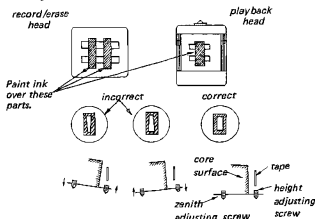

Fig. 3-24. Head zenith and height adjustment
3. Paint the head core with black ink as shown in Fig. 3-24.
- After the ink dried, run the tape in the FWD direction for 20 to 30 seconds. Watch the ink on the core fading away. When the same wide amount of the faded away part cannot be obtained at every point, turn the zenith and height adjusting screws in the direction shown by the arrows. See Fig. 3-24. Repeat this step several times until the satisfied result is obtained. After the adjustment clean the core with a soft cloth dampened with denatured alcohol.
- Paint the record/erase head cores with ink as shown in Fig. 3-24.
- After the ink dried, run the tape in the FWD direction for 20 to 30 seconds. Watch the ink on the core fading away. When the ink does not fade away in the same wide amount at every point, turn the zenith and height adjusting screws in the direction shown by the arrows. See Fig. 3-24. Repeat this step several times until the satisfied result is obtained. After adjustment clean the cores with a soft cloth dampened with denatured alcohol.